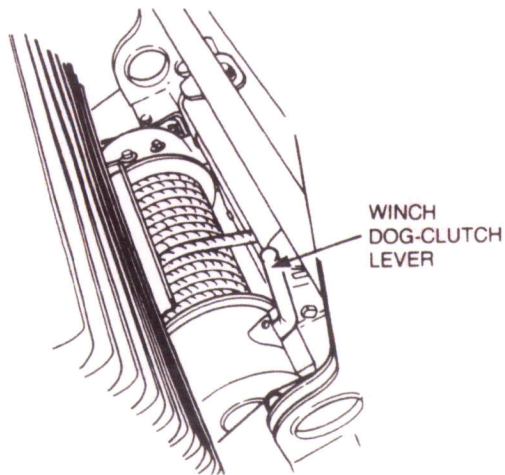

Figure 2-12 Winch dog-clutch operation
- a. Ensure that the engine is switched OFF, then set the winch dog-clutch lever to the vertical position to disengage the dog-clutch (see Fig. 2-12). Reel out the winch rope as required.